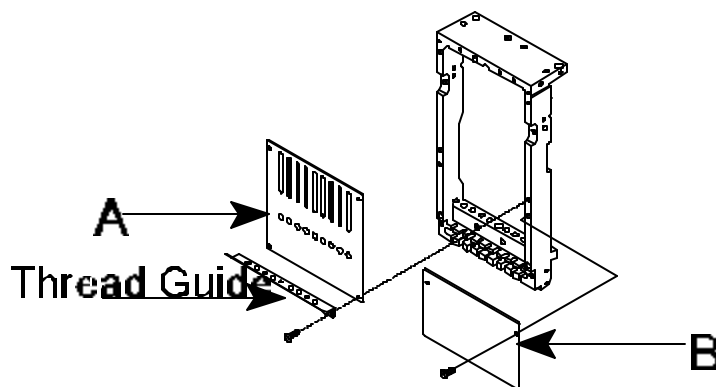

Figure 1
- Using a Phillips Screwdriver, **remove** 6 screws from A, and B Sewing Head Plates and Thread Guide . See Figure 1.